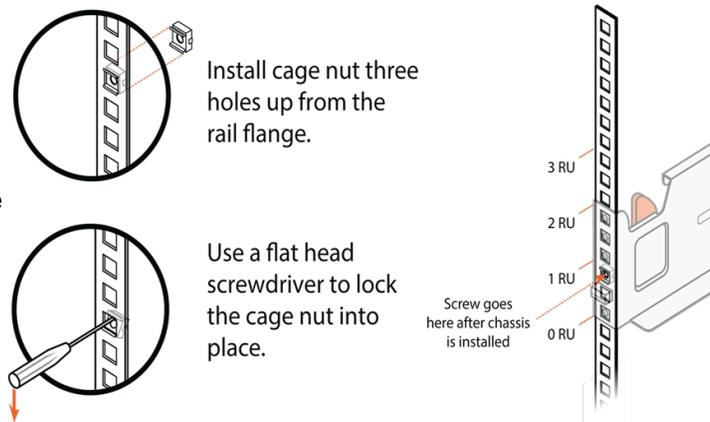

Figure 16-1. Installing Cage Nuts
1. (Square-hole racks only) Install the #10-32 cage nuts (from the Accessory Kit) on the front of the rack, as shown in Figure 16-1.